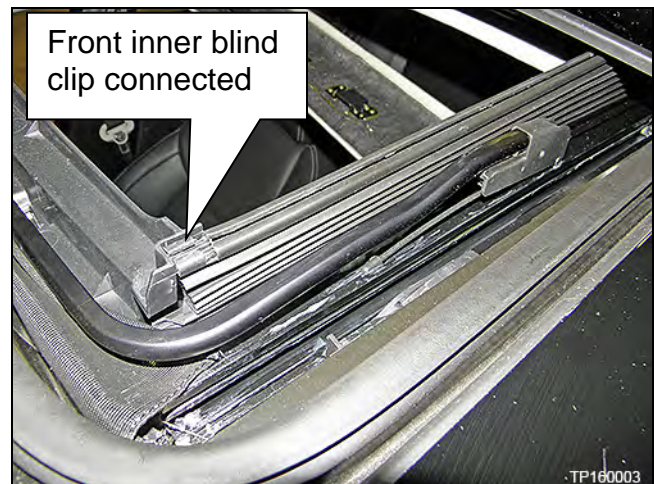

Figure 25
- b. Reconnect the front clip of the inner blind to the front corner of the moonroof frame (Figure 25).